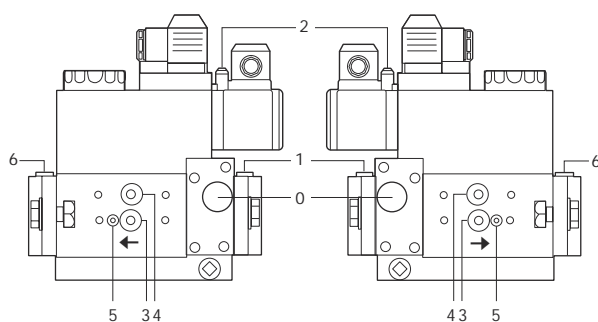
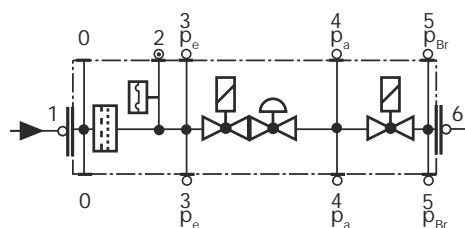

Fig. 26
Fig. 27
- Clean and examining the gas filter cartridge, if necessary replace it (Fig. 26 on).
- Change the filter if the pressure difference between pressure connection 1 and 3 (Fig. 26-Fig. 27) is  $\Delta p > 10$  mbar.
- Change the filter if the pressure difference between pressure connection 1 and 3 (Fig. 26-Fig. 27) is twice as high compared to the last check.